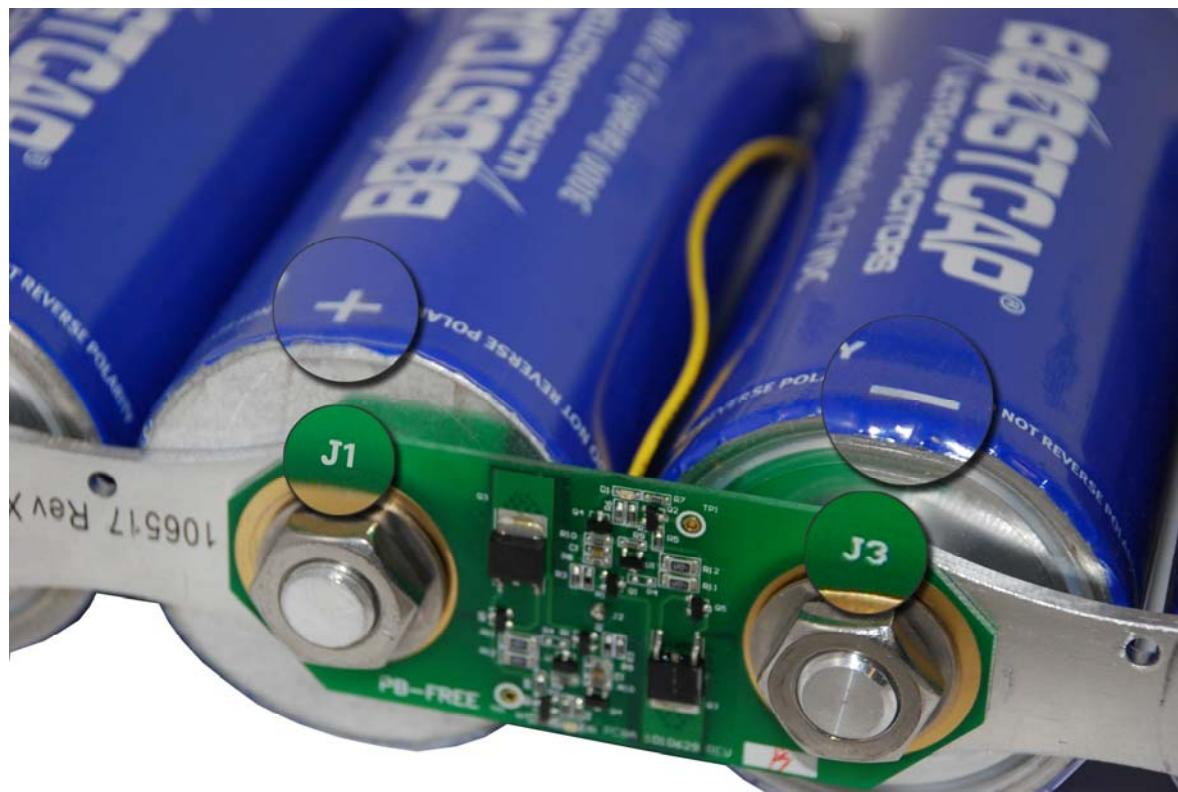

Figure 9
3.2.8 **Note:** The voltage management board is polarized. **J1** on the board is positive; **J3** is negative. Ensure correct polarities of capacitor terminal and voltage management board are connected. (Figure 9)